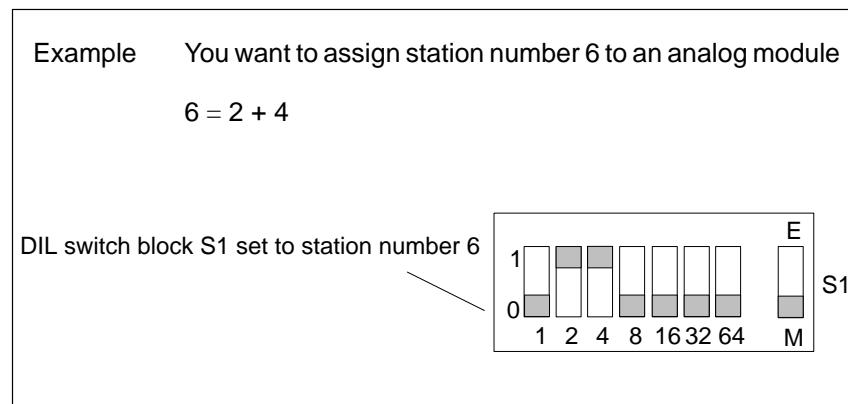

Figure 4-29 Example of How to Set a Station Number at DIL Switch Block S1
If you set the single DIL switch to M (for **M**anual setting by DIL switches) you must use the seven DIL switches in the array to set the station number (see Figure 4-29).
3. Set the station number by means of the block of seven DIL switches (see Figure 4-29).